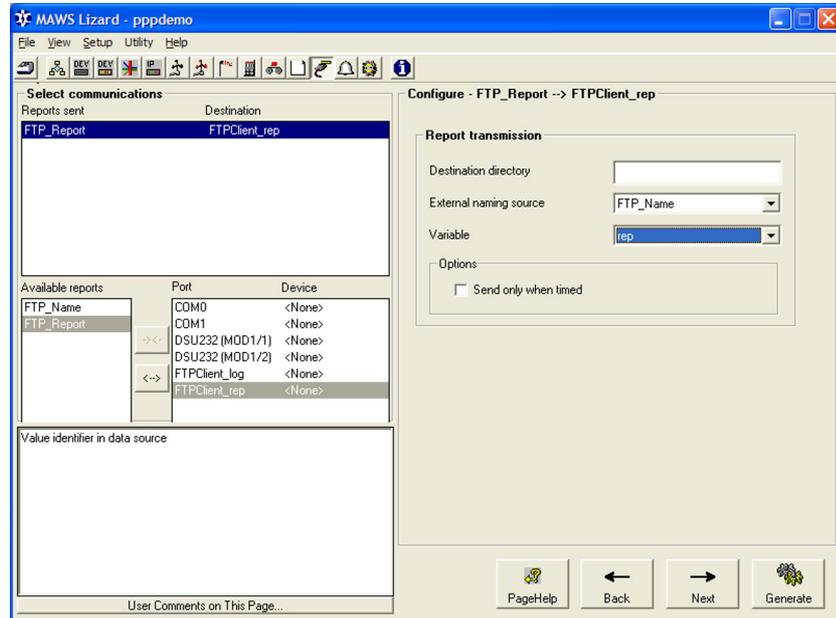

Figure 165 Using External Naming Source for Report Transfer
8. In the **Communications** view, configure the report-specific FTP transmission options. See Figure 165 on page 326.